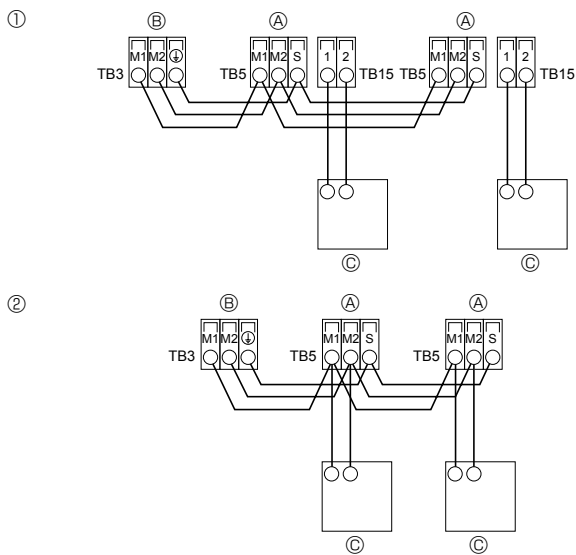

Fig. 4-3
4.4. Connecting remote controller, indoor and outdoor transmission cables (Fig. 4-3)